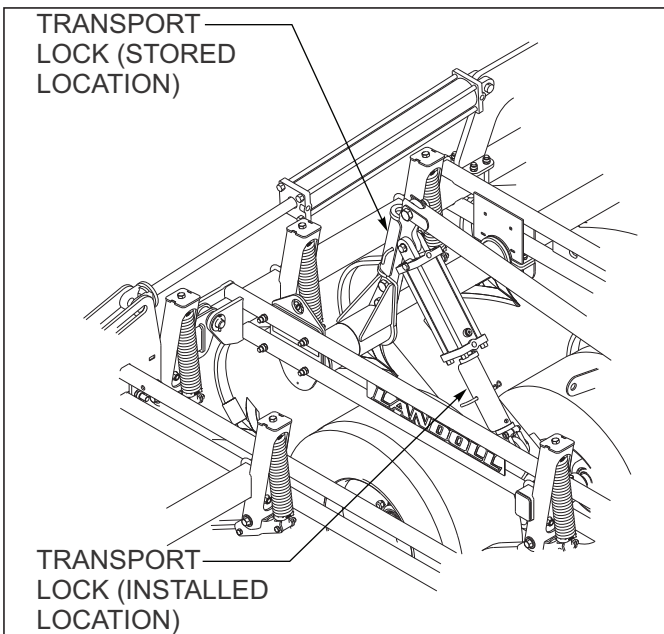

Figure 4-2: Transport Lock Locations
2. The hydraulic system is not filled with oil and should be purged of air before transporting and field operations. Carefully hitch the Field Cultivator to the tractor and connect the hydraulic lift hoses. Check to make sure the tractor hydraulic reservoir is full of the manufacturer's recommended oil. Slowly raise the machine, and continue to hold the hydraulic lever until all lift cylinders are fully extended. With all cylinders fully extended remove the transport locks *See Figure 4-2* Lower and raise the unit to verify that all cylinders are working simultaneously throughout the stroke. If the cylinders are not working evenly or together, fully extend the lift cylinders and continue to hold the lever to purge any remaining air. Do not loosen any hoses or fittings. Recheck tractor reservoir to make sure it is within operating limits.